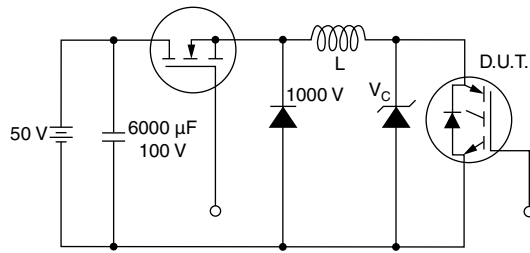

Fig. 19 - Clamped Inductive Load Test Circuit
- $V_{CC} = 80\% (V_{CES})$ ,  $V_{GE} = 20\text{ V}$ ,  $L = 10\text{ }\mu\text{H}$ ,  $R_G = 23\text{ }\Omega$  (see fig. 19)